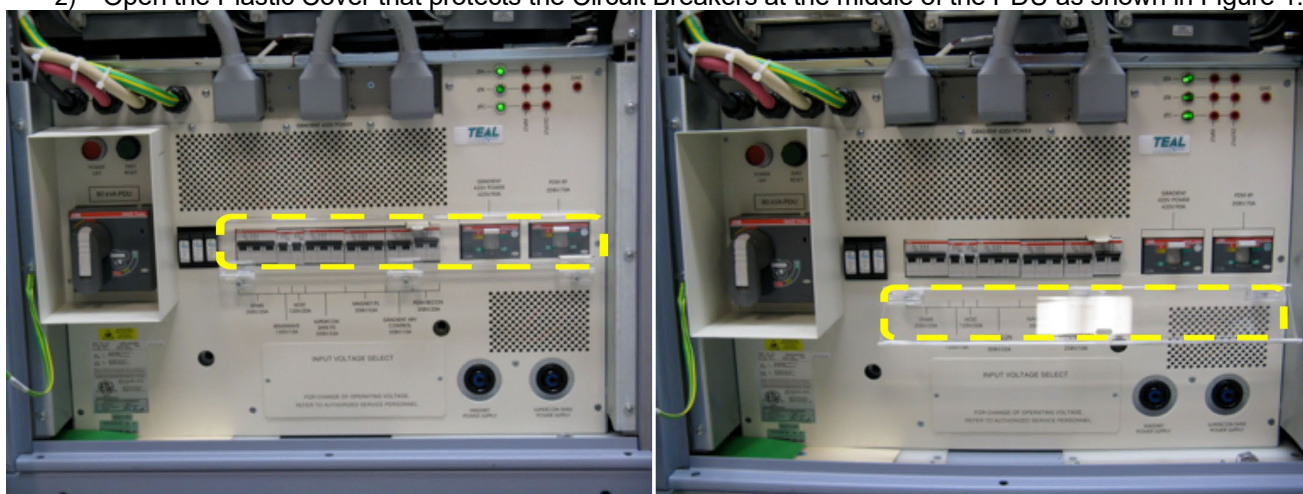

Figure 1. Clear plastic cover closed (left) and open (right) that protects circuit breakers in PDU.
- 2) Open the Plastic Cover that protects the Circuit Breakers at the middle of the PDU as shown in Figure 1.